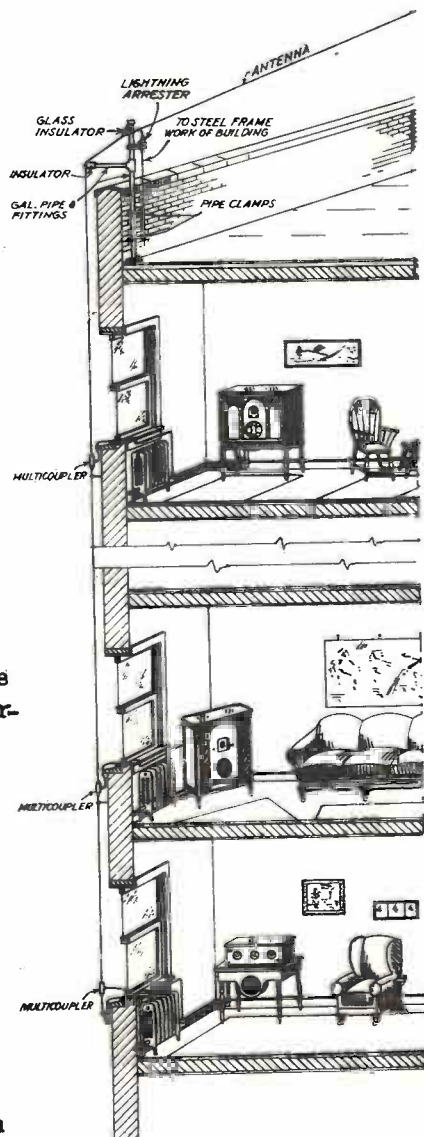

Fig. 67 - One aerial supplies many sets.
(13) Lamp-Socket Aerial. In some congested districts permission for the erection of an outdoor aerial cannot be obtained and some alternative method must be employed. The electric-light lines are sometimes used, by means of a lamp-socket aerial plug. This contains isolating condensers to prevent the lighting current from entering the set. Good results are sometimes obtained, but sometimes noises are introduced, which are difficult to filter out without reducing the signal intensity. It is dangerous to employ this aerial on some electric sets, as a dangerous short circuit is likely to occur.
(14) Indoor Aerials. A wire strung around the room behind the picture molding, or in some other concealed place, serves as an efficient aerial in many locations, but in steel buildings poor results may be expected. It may be used in combination with a lamp-socket aerial.
(15) Underground Aerials. In outlying districts, where space permits, underground aerials may be employed for the reduction of various kinds of interference. While no exact data as to the efficiency of this type of aerial can be given at this time, we have received many satisfactory reports from various experimenters.
(16) Multiple Aerials. The tangled maze of unsightly copper wires, strung in all directions on the roofs of some apartment houses, should inspire all Service Men to recommend some form of multiple aerial to the owner of the building. The illustration, Fig. 67, shows how neat this arrangement can be made (Amy, Aceves and King, Inc.) One well-erected aerial feeds all sets in the building through special coupling devices, thereby simplifying set installation and insuring satisfactory set operation with virtually no trouble from this source. A defective coupling unit will seldom occur, and in this case, it can easily be replaced.